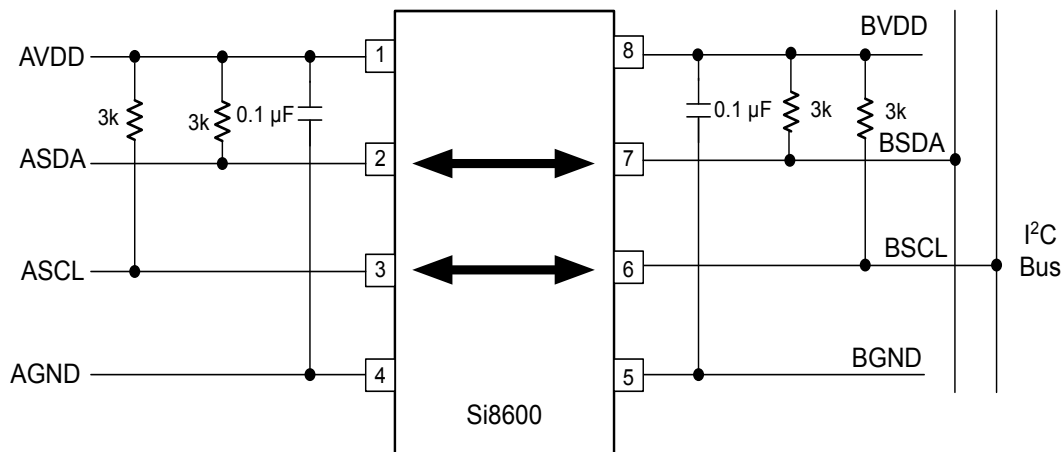

Figure 3.2. Typical Si8600 Application Diagram
3.0 V < VDD < 5.5 V. T_A = −40 to +125 °C. Typical specs at 25 °C (See Figure 5.2 Simplified Timing Test Diagram on page 15 and Figure 3.2 Typical Si8600 Application Diagram on page 5 for test diagrams.)